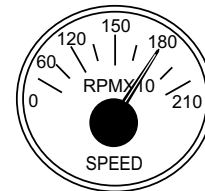

Figure 49. Engine Tachometer Gauge
14. The **tachometer gauge** (Figure 49) will indicate the speed of the engine when the generator is operating. Under normal operating conditions this speed is approximately 1800 RPM's.